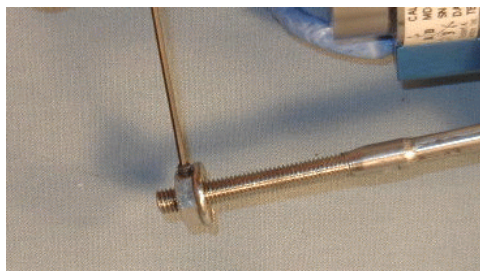

Figure 3.19 - Achilles Retaining Nut
18. Secure the cable with the Achilles Retaining Nut (T2LLM318) and tighten the #4-40 x 1/8" Nylon Tipped SSS {0.05} in the retaining nut to secure the position of the nut on the cable, as shown in **Figure 3.19**. The adjustment of the Achilles cable will be discussed in Section 3.3.